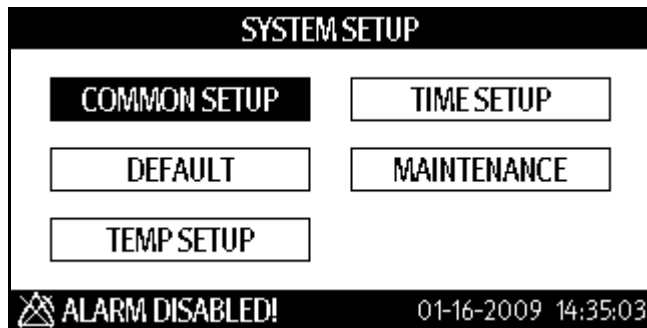

FIGURE 4-4 SYSTEM SETUP Dialog
1. Press  (12) to display the SYSTEM SETUP dialog as shown in FIGURE 4-4.
2. Press  (16) or  (19) to highlight **MAINTENANCE**.